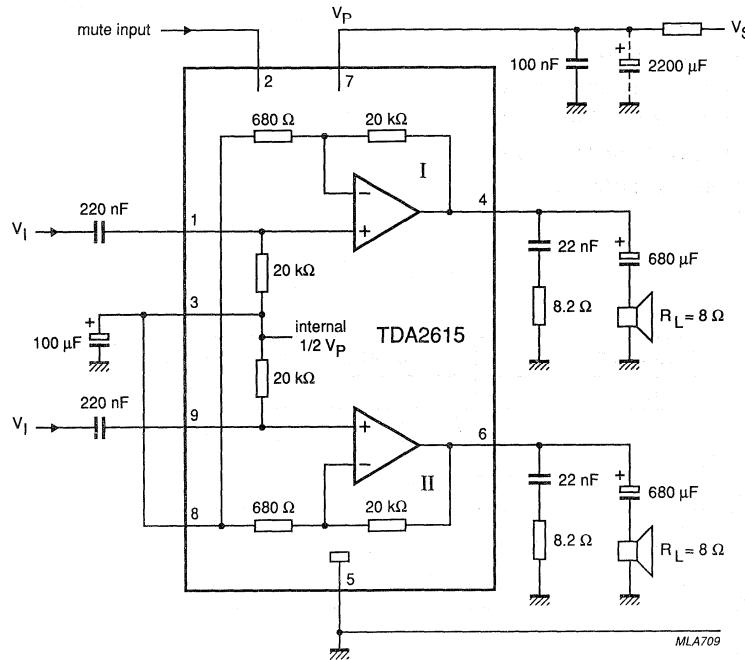

Fig.5 Test and application circuit with asymmetrical power supply.
- $V_p = 24 \text{ V}$; $R_L = 8 \Omega$; $T_{amb} = 25^\circ\text{C}$; $f = 1 \text{ kHz}$; asymmetrical power supply $I_{MUTE} < 30 \mu\text{A}$. See Fig.5